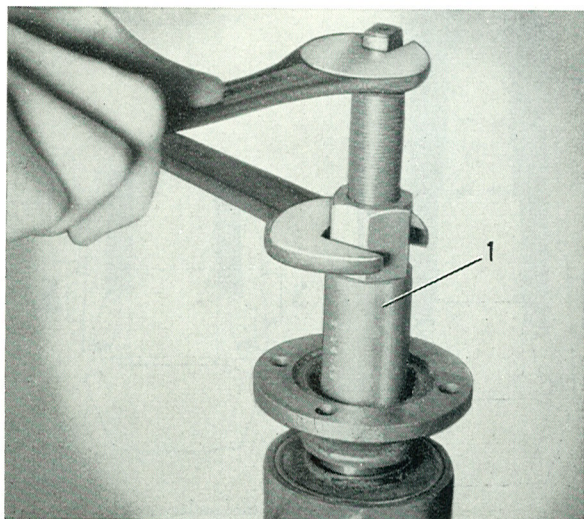

Fig. 4-92. Fitting the flange
4. Press on the flange with the help of press tool SVO 1845, see Fig. 4-92. Fit the washer and nut. Tighten the nut to a tightening torque of 28—30 kgm (200—220 lb.ft.).